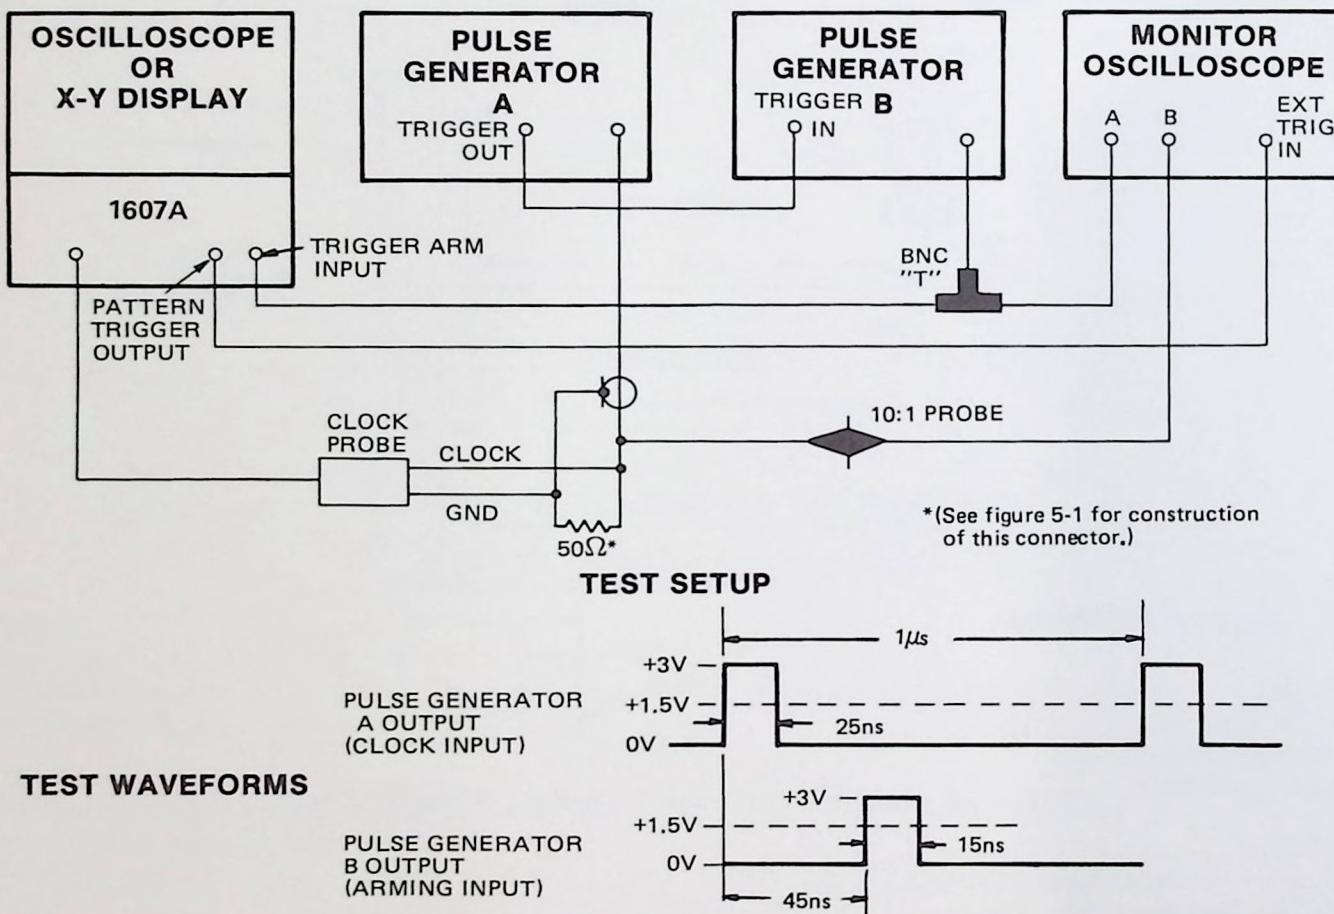

Figure 5-7. Trigger Arm Input
- e. Connect test equipment as shown in figure 5-7 and apply test waveforms to CLOCK and TRIG ARM inputs.